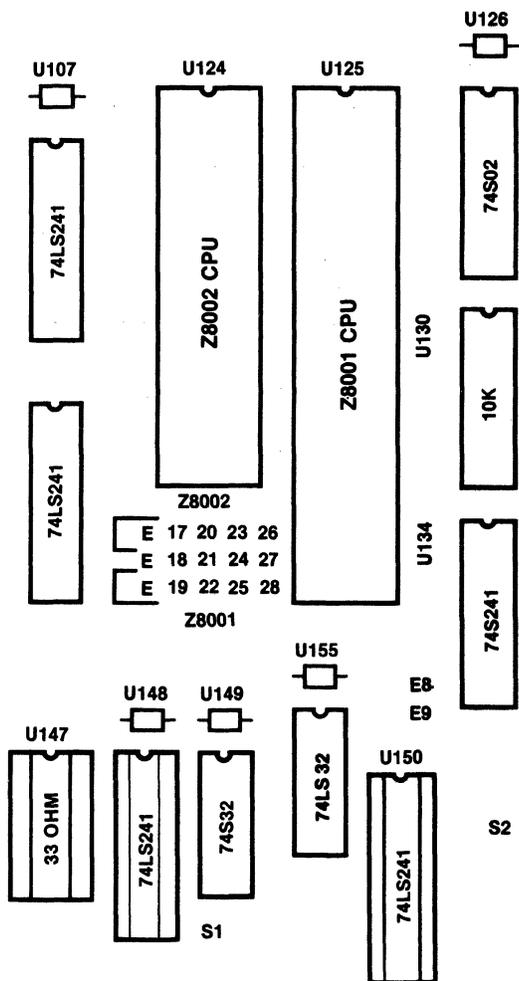

Figure 3-10. Location of CPU Jumpers on PC Board Component Layout
2. Locate the four sets of jumpers at the base of the Z8002 socket marked U124 (see Figure 3-10).